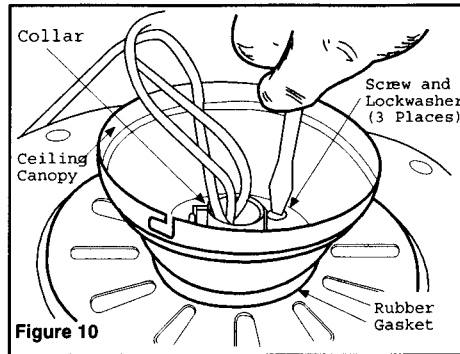

Figure 10
- Place the rubber gasket over the remaining three screws, route the wires exiting the top of the fan motor through the canopy then proceed to place the ceiling canopy over the collar at the top of the motor (Figure 10).
- Align the mounting holes with the holes in the motor and fasten, using the three screws and lock-washers provided in the close-to-ceiling mount hardware packet (Figure 10).